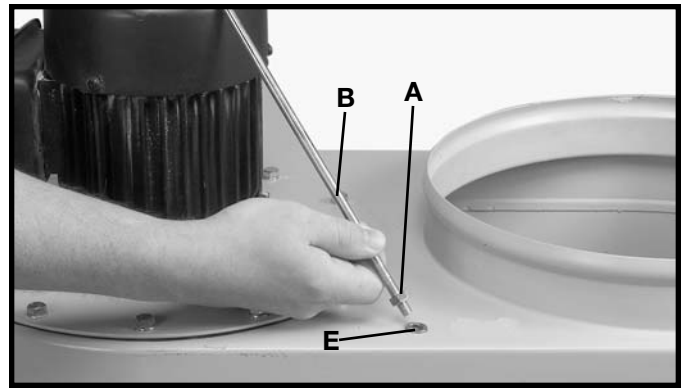
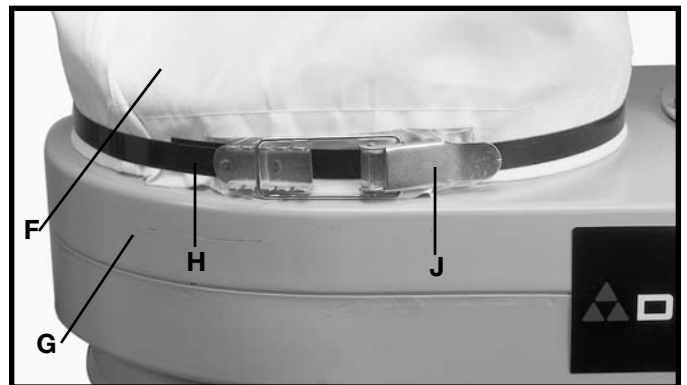

Fig. 13
Fig. 15
1. Thread a 5/16" hex nut (A) Fig. 13, onto the end of bag support rod (B). Thread rod into hole (E) and tighten nut (A) against motor assembly to hold support rod (B) upright. Height of support rod can be adjusted after the filter bag is in place. The hook in the support rod (B) should be positioned over the drum.
3. Position open end of filter bag (F) Fig. 15, over the lip of drum (G). **NOTE:** It may be necessary to adjust the height of the drum support rod at this time. If adjustment is necessary, loosen nut (A) Fig. 13, and rotate support rod (B) as needed to obtain proper rod height to support filter bag (F). Tighten nut (A) Fig. 13. Place locking band (H) around the filter bag (F) and fasten filter bag to drum by locking clamp (J) as shown in Fig. 15. **IMPORTANT:** Make certain band (H) is positioned in the channel of drum (G) before locking clamp (J).